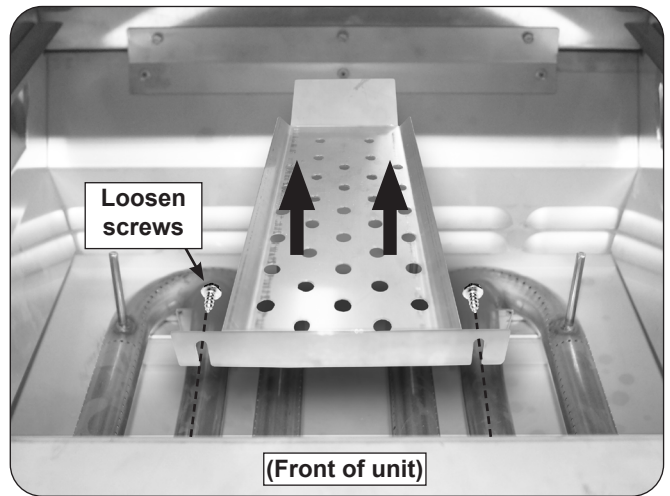

Fig. 42-1 Heat distribution grid removal
3. Loosen the two  $\frac{5}{16}$ " hex screws and remove the heat distribution grid by lifting up, then outward, freeing the cutouts from the two loosened screws (see Fig. 42-1).